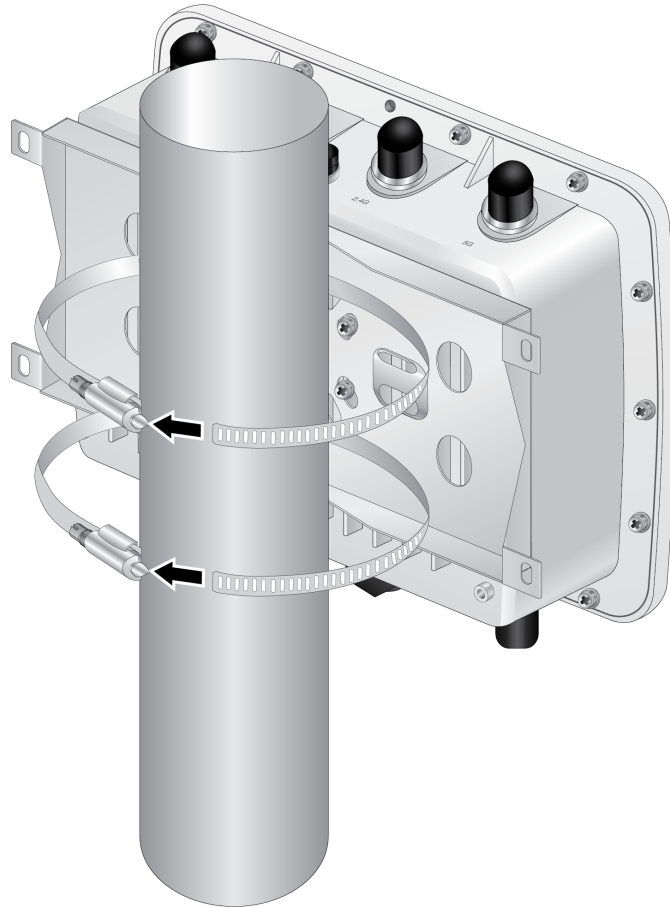

Figure 32. Inserting the Strap Ends into the Screws
5. Insert the ends of the pole straps beneath the strap screws. Refer to Figure 32.